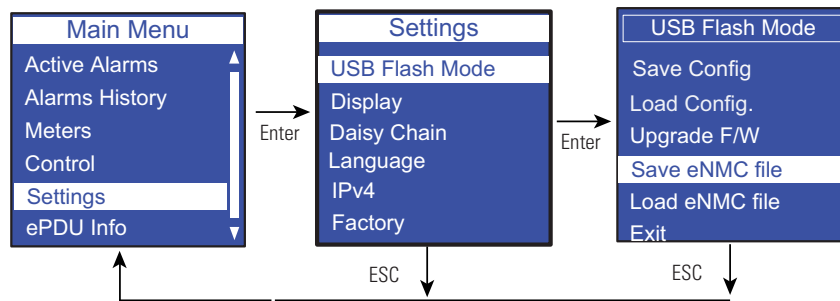
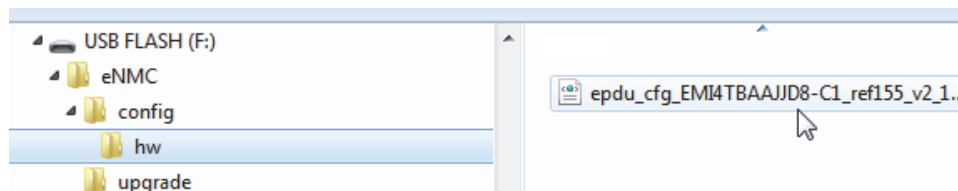

Figure 64. Example Save eNMC File
Figure 65. Verify HW File at USB Root
- Select Save eNMC file to save the ePDU hardware configuration file to the USB drive (see Figure 64). The file will save to the eNMC/config/hw path at the USB drive root directory (see Figure 65).